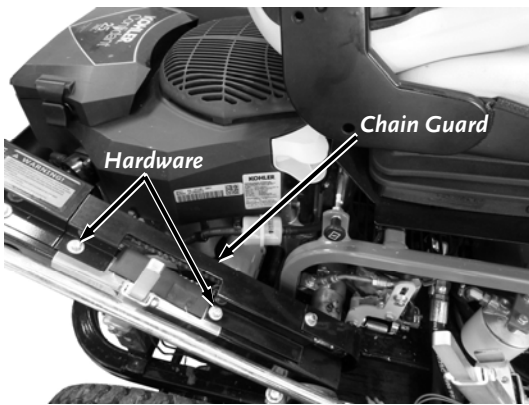

Figure 30
1. Place the Control Arm in the Walk-Behind position. Remove the Chain Guard from the Control Arm (**Figure 30**).